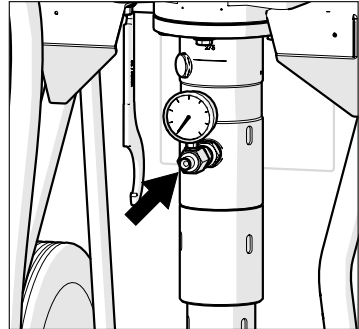

Fig. 25: Connection for the material hose
2. Connect the material hose to the material outlet of the high pressure cleaner (Fig. 25).